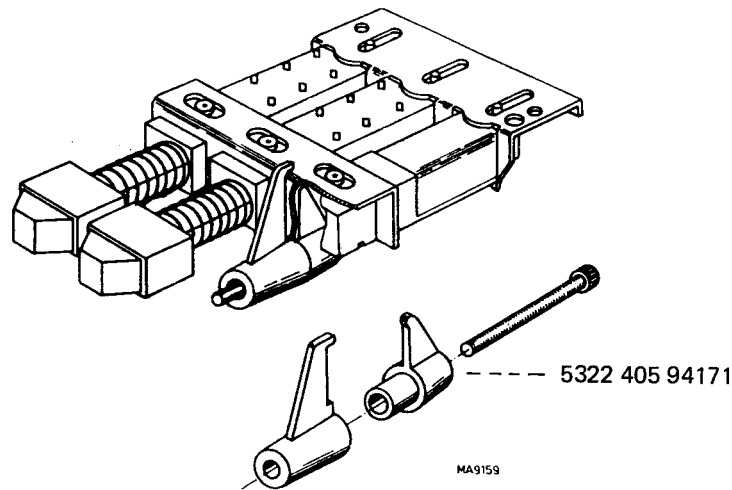

Fig.5.6. Push-button set clamping device
- The Allen-key screws that secure the push-button set to the front panel must be removed (Fig. 5.6.).
Note: Before a push-button set is refitted to the front panel, it is advisable to stick the two parts of the clamping device together by means of adhesive tape or non-hardening glue, in order to facilitate replacement, refer to Fig. 5.6.